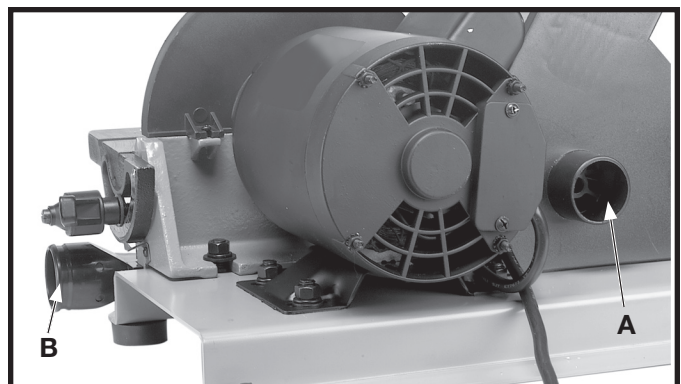

Fig. 34
Two dust chutes are supplied with your belt and disc sander and are equipped with 1-1/4 inch I.D. openings that can easily be connected to a dust collection system. Dust chute (A) Fig. 34, is for the belt unit and dust chute (B) is for the disc unit.